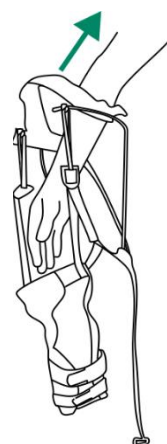

Figure 9
1. Put the arm through the bracket and arm cuff (Fig. 9).